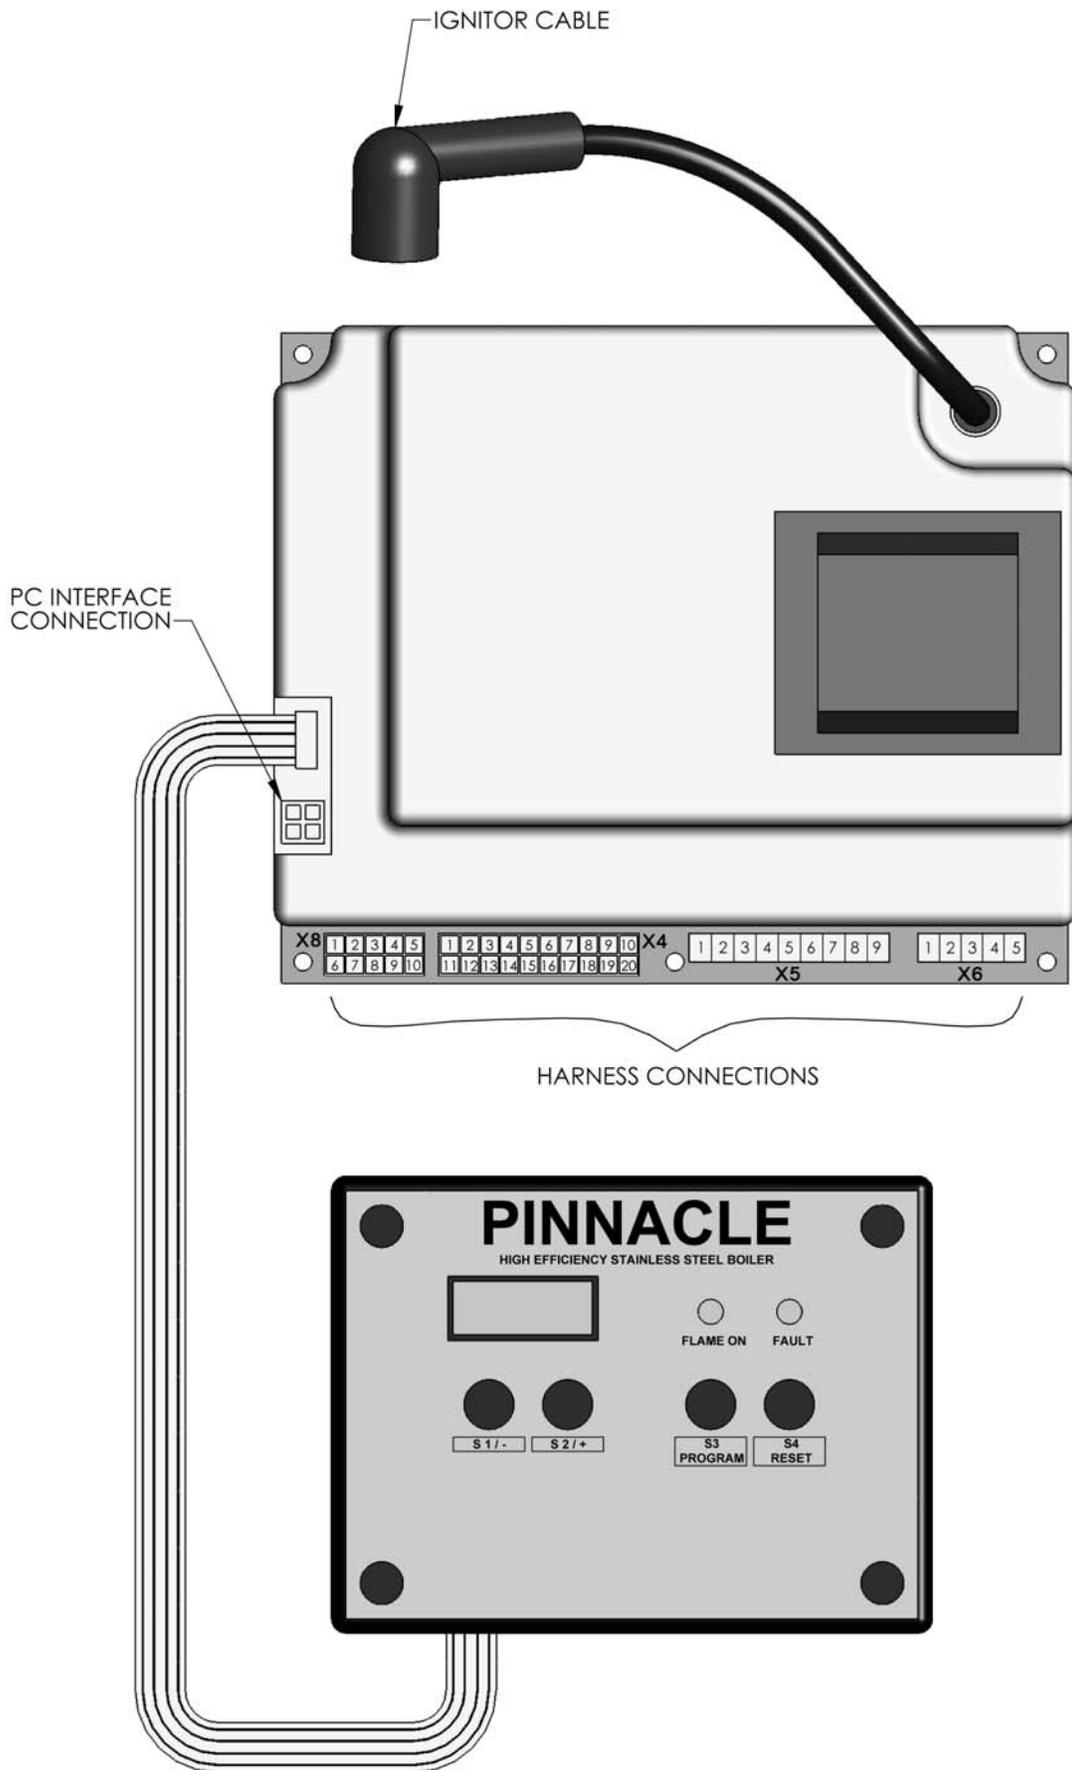

Figure 6.3: P825 Control Board with Molex® Connector & Pin Designations
9. The boiler control board is shown in Figure 6.3.